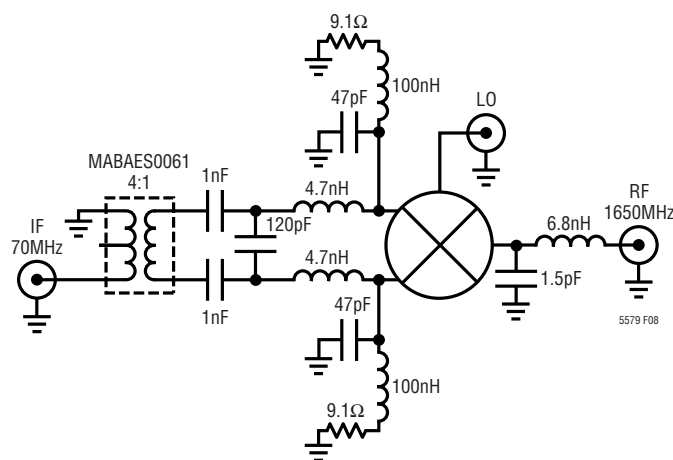

Figure 8. IF Input Tuned for 70MHz
The measured return loss of the IF input is shown in Figure 3 for application frequencies of 70MHz, 240MHz and 456MHz. Component values are listed in Table 2. (For 70MHz matching details, refer to Figure 8.)
Note: (1) Depends on RF, (2) T1 = M/A-Com MABAES0061, (3) See Figure 8
In this case, the LT5579 was evaluated while tuned for an IF of 70MHz and an RF output of 1650MHz. The matching configuration is shown in Figure 8.